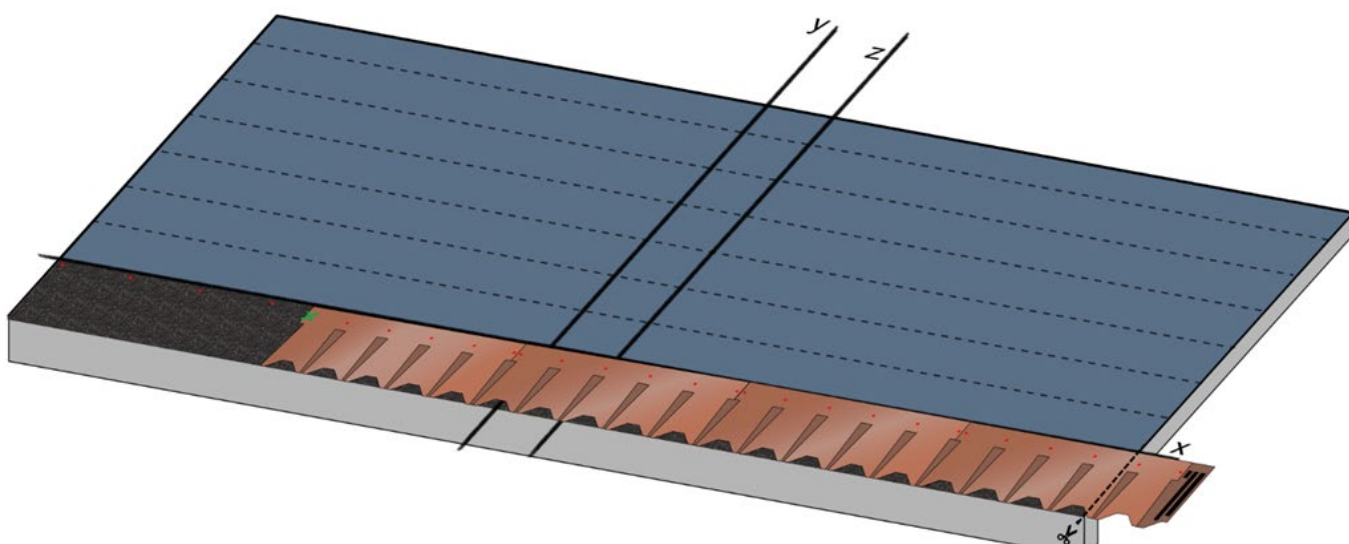

Fig. 9 - Installation of the first row of Master Coppo shingle
- Proceed with the installation of the shingles in the same manner, moving towards the right until the edge of the pitch. Cut the Master Coppo shingle at the right edge of the pitch. Fig. 9.